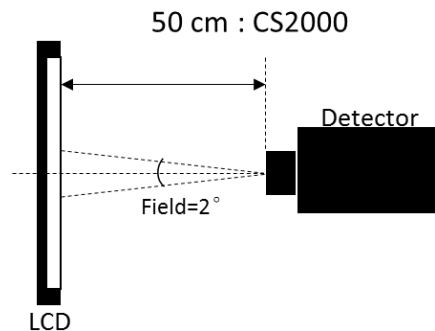

Fig.4.1 Measurement equipment.
- (1) Each chromaticity coordinates (x, y) are measured in CIE1931 color space when full-screen displaying (Red, Green, Blue, White) and light source is defined by HKC Backlight, measurements shall be made at the center of the panel, and setup of measurement is shown in Fig 4.1.
- (2) The color gamut is defined as the fraction in percent of the area of the triangle bounded by R, G, B coordinates and the area is defined by NTSC 1931 color standard in the CIE color space. Chromaticity coordinates are measured by CS2000 and the standard setup of measurement is shown in Fig 4.1.
- (3) Definition of Transmittance (T%):
(6) Definition of Viewing angle:
As Note (4) the static contrast ratio definition, the viewing angles are defined at the angle that the contrast ratio is larger than 10 at four directions relative to the perpendicular direction of the HKC's module (two vertical angles: up θ_{y+} and down θ_{y-} ; and two horizontal angles: right θ_{x+} and left θ_{x-}). The standard setup of measurement is shown in Fig 4.1 & 4.4